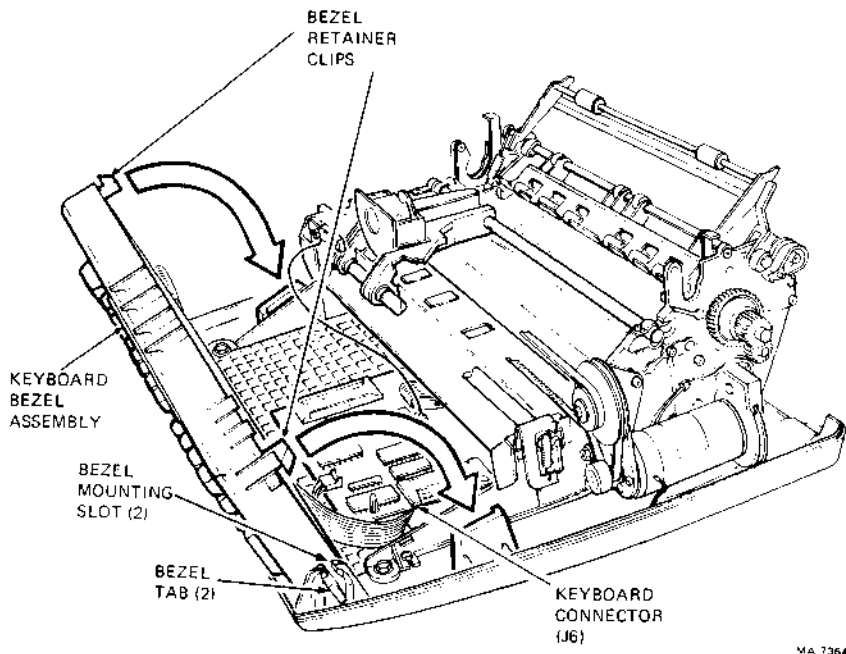

Figure 7-9 Removing Keyboard Bezel
2. Press the bezel retainer clips and rotate the keyboard/operator control panel toward the front of the terminal (Figure 7-9).
3. Press the bezel retainer clips and rotate the keyboard/operator control panel assembly toward the front of the terminal (Figure 7-9).